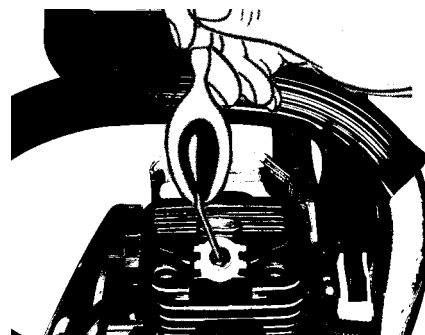

Fig. 40
5. Pour 1 teaspoon of clean 2-cycle oil into the combustion chamber. Pull starter rope slowly several times to coat internal components. Replace spark plug (Fig. 40).